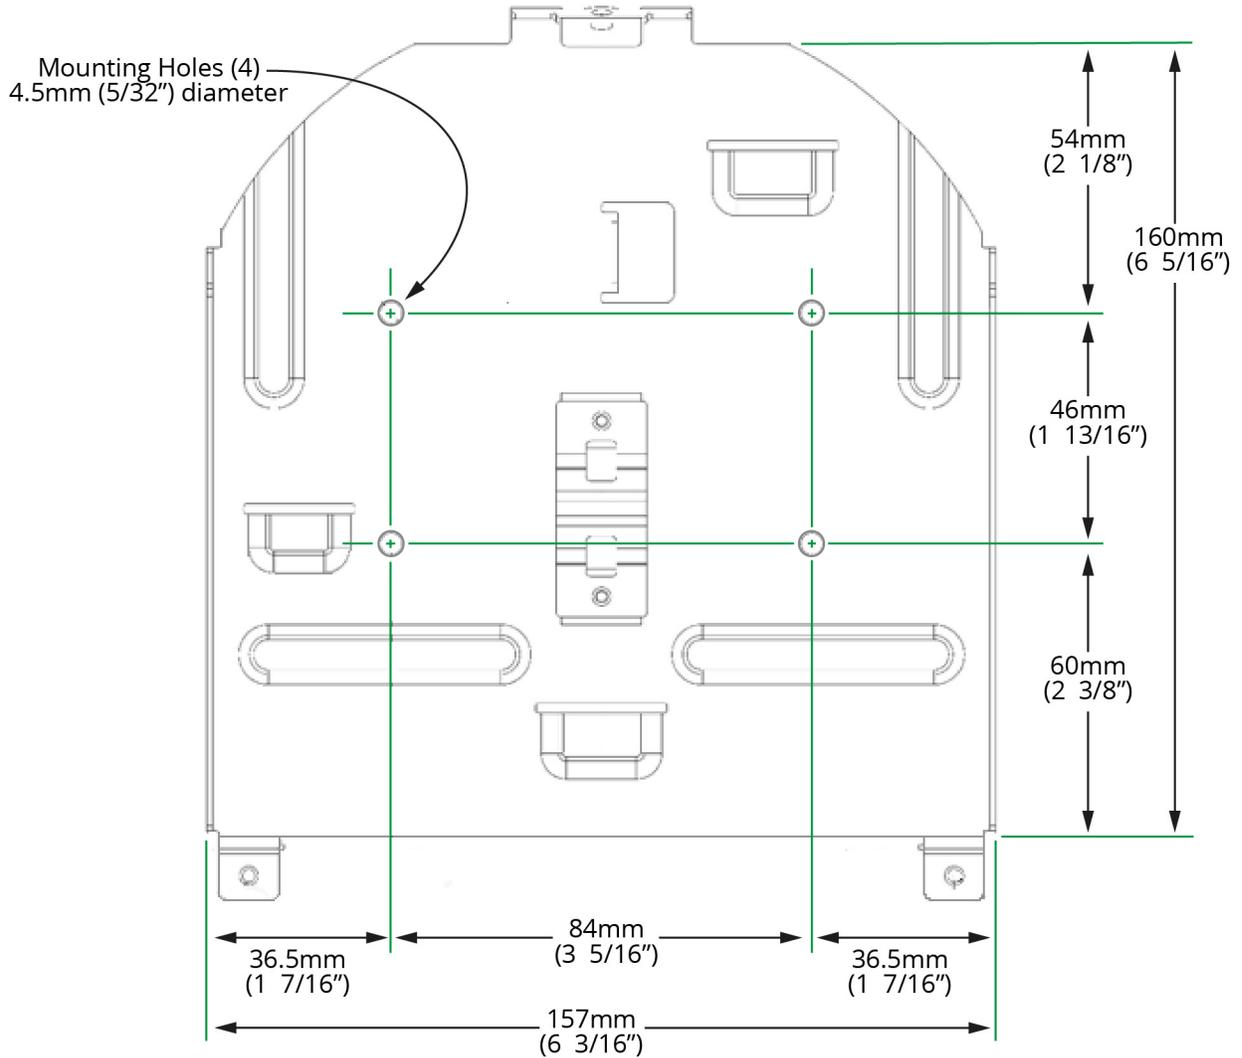

Figure 17 - Metal Plate B, showing Mounting Holes
3. Mount **Metal Plate B** on the ceiling, using suitable fasteners (Figure 17).